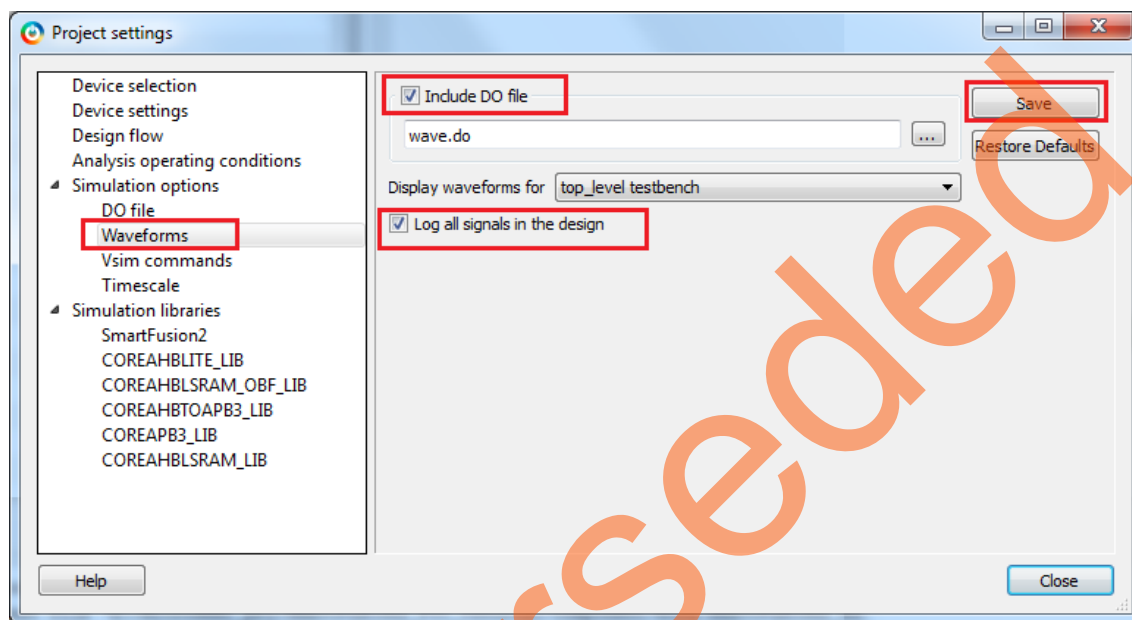

Figure 30 • Project Settings – Waveforms
5. Select **Waveforms** under **Simulation Options** as shown in Figure 30: